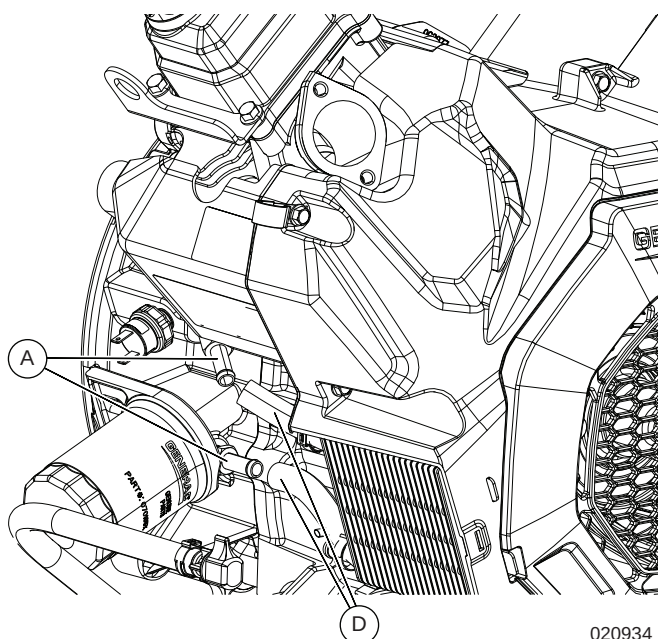

Figure 12-23. Install Rubber Hoses
3. See Figure 12-23. Insert blower side of oil cooler into blower housing. Verify oil cooler tabs (C) are inserted in oil cooler mounting slots (B).